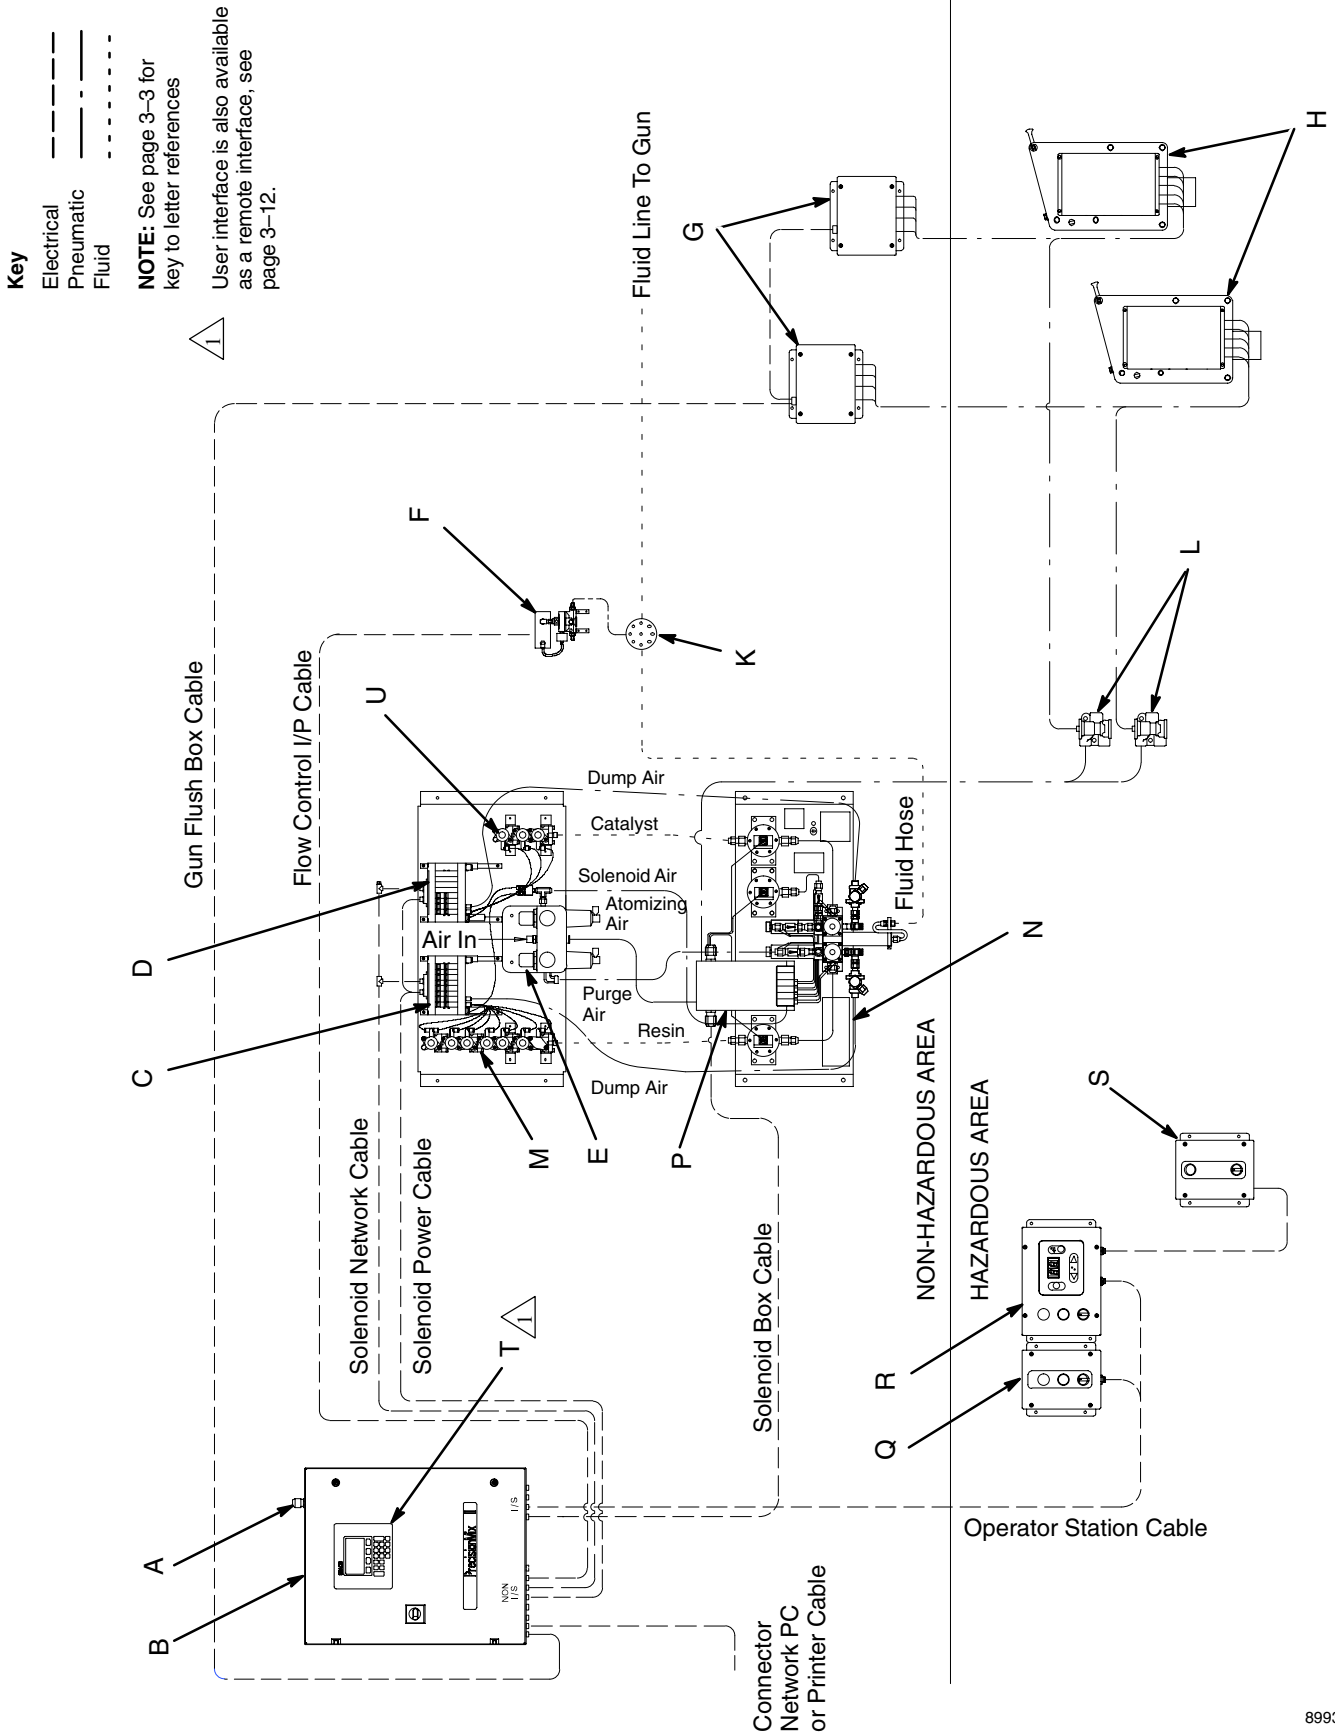

Fig. 3.1
- The Typical Installations shown in Figs. 3.1, 3.2, and 3.3 are only a guideline for selecting and installing system components and accessories, and is not an actual system design. Contact your Graco distributor for assistance.
### KEY FOR FIG. 3.1, 3.2, AND 3.3
**NOTE:** The typical installation drawings (Fig. 3.1, 3.2, and 3.3) show all possible system options. Your system may not include all these options.
- Refer to Fig. 3.1, 3.2, or 3.3 for non-hazardous versus hazardous location equipment requirements.